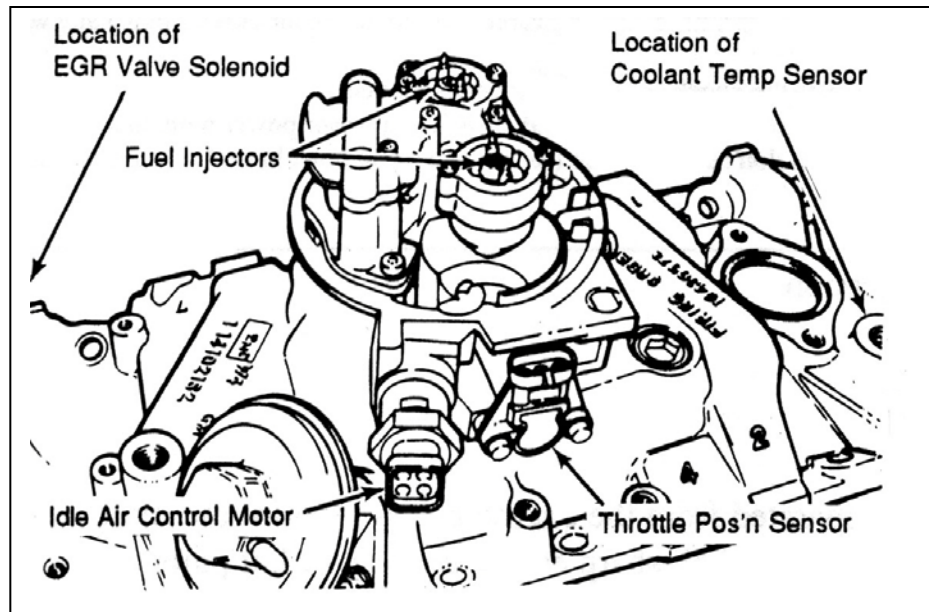

Figure 6.4 Throttle Body Injection Unit
- B. Starting at the rear of the engine, using **Figure 6.4**, **Table 6.2**, and the specific illustrations indicated in **Table 6.2**, begin attaching the connectors to their proper places and THEN secure the harness to the engine when ready.
Note: If the throttle position sensor on your throttle body is different from the one illustrated in Figure 6.4, an adapter is in the kit.